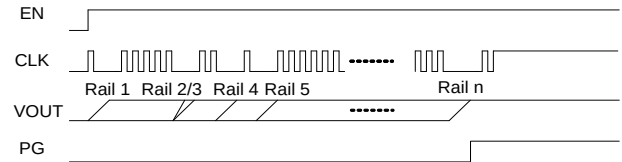
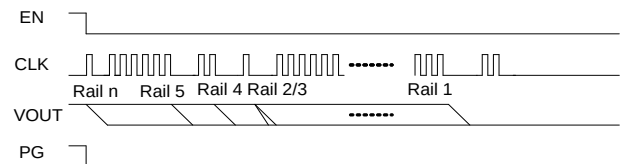

Figure 4: Soft Start when CLK Pulls Down (Pausing)
Figure 5: Soft Shutdown when CLK Pulls Down (Pausing)
The CLK-based FLEX-timer sequence control scheme uses an initiator-target structure. The EN pins and CLK pins for all the PMICs are connected together for sequence control (see Figure 4 on page 18).
- If CLK_PAUSE_EN = 1, the initiator/target PMIC pulls the CLK pin down during the soft start/shutdown of any power rail(s). Figure 4 shows when CLK pauses during start-up. Figure 5 shows when CLK pauses during soft shutdown.